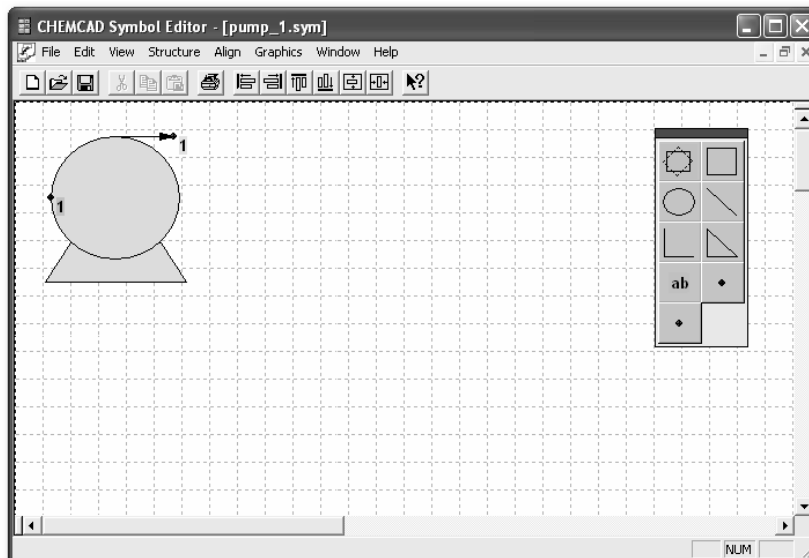

Figure 9-05: The pump\_1.sym file open in the Symbol Editor workspace
1. Select **File > Open** from the Symbol Editor menu. In the Open dialog box, select a file from Symbols directory and click **Open**. The selected symbol opens in the Symbol Editor workspace, as shown in Figure 9-05.